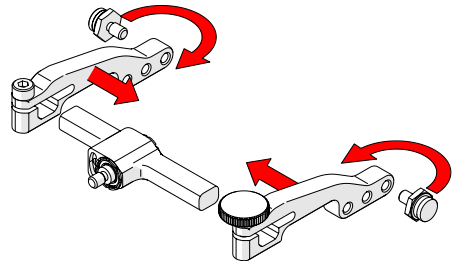

Fig. 166 - Attach arms and move buttons
4. Place the pivot buttons on the inside of the probe holder arms (Fig. 166) using a 3/8 in wrench (Fig. 70). Slide the arms onto the yoke and tighten the probe holder arm adjustment knob and the arm clamp screw.